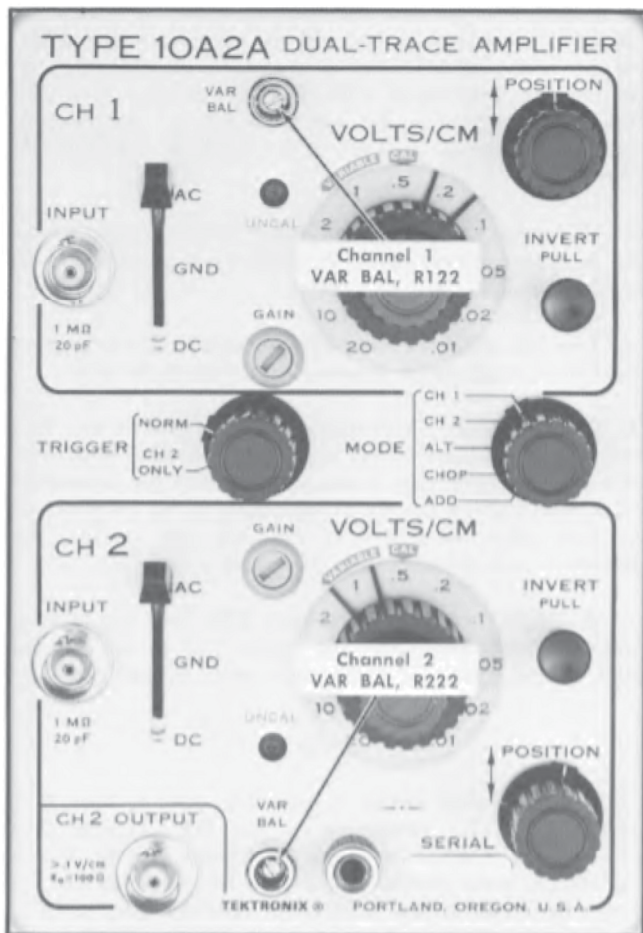

Fig. 6-4. Location of channel 1 VAR BAL control, R122 and channel 2 VAR BAL control, R222.
j. Set the DC voltmeter to a sensitive range then adjust the Type 10A2A channel 1 VAR BAL control, R122 (see Fig. 6-4) and if necessary the Ch 1 Inv Bal control, R160 (see Fig. 6-3) until a voltmeter reading of zero volts is obtained.
l. Set the DC voltmeter to a sensitive range then adjust the Type 10A2A channel 2 VAR BAL control, R222 (see Fig. 6-4) and if necessary the Ch 2 Inv Bal control, R260 (see Fig. 6-3) until a voltmeter reading of zero volts is obtained.
2. Adjust Channel 1 Variable Attenuator Balance, Base Current and Invert Balance ①
c. Adjust the Channel 1 VAR BAL control R122 (see Fig. 6-4), and if necessary, the Inv Bal control R160 (see Fig. 6-3) to position the trace to the center horizontal line.
e. ADJUST—VAR BAL control, R122 (see Fig. 6-4). If the trace location with the VARIABLE (VOLTS/CM) control at CAL is within the graticule area proceed to sub-part 4) below. If trace is off graticule area perform all the sub parts.
3. Adjust Channel 2 Variable Attenuator Balance, Base Current and Invert Balance ①
c. Adjust the Channel 2 VAR BAL control R222 (see Fig. 6-4), and if necessary, the Inv Bal control R260 (see Fig. 6-3) to position the trace to the center horizontal line.
e. ADJUST—VAR BAL control R222 (see Fig. 6-4). If the trace location with the VARIABLE (VOLTS/CM) control at CAL is within the graticule area proceed to sub-part 4) below. If trace is off graticule area perform all the sub-parts.